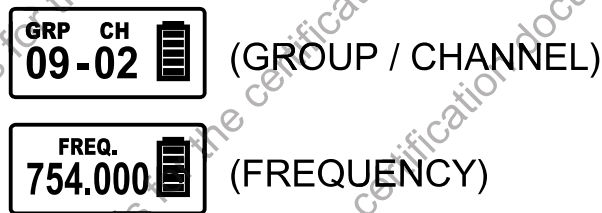

Fig. 20
(A) Group (GRP) / Channel (CH) / Frequency (FREQ.). Fig. 20:
- (1) Group / Channel / Frequency messages are displayed only and cannot be changed.
- (2) To change Group / Channel / Frequency, do it at the receiver and then press ACT button to sync.